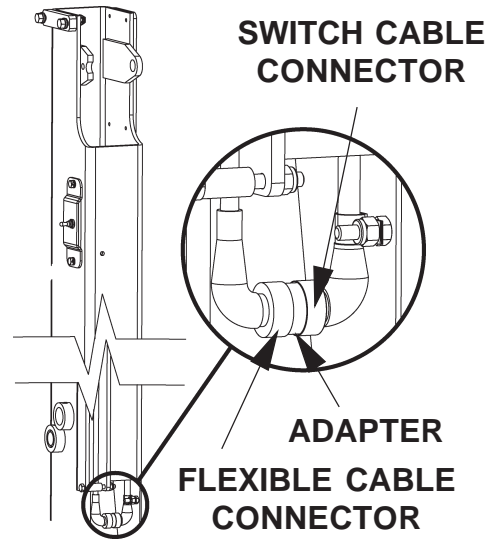

FIG. 14A
21. Re-connect Runner Switch Cable connector to Flexible Cable connector and Adapter at bottom of Runner (**FIG. 14A**).